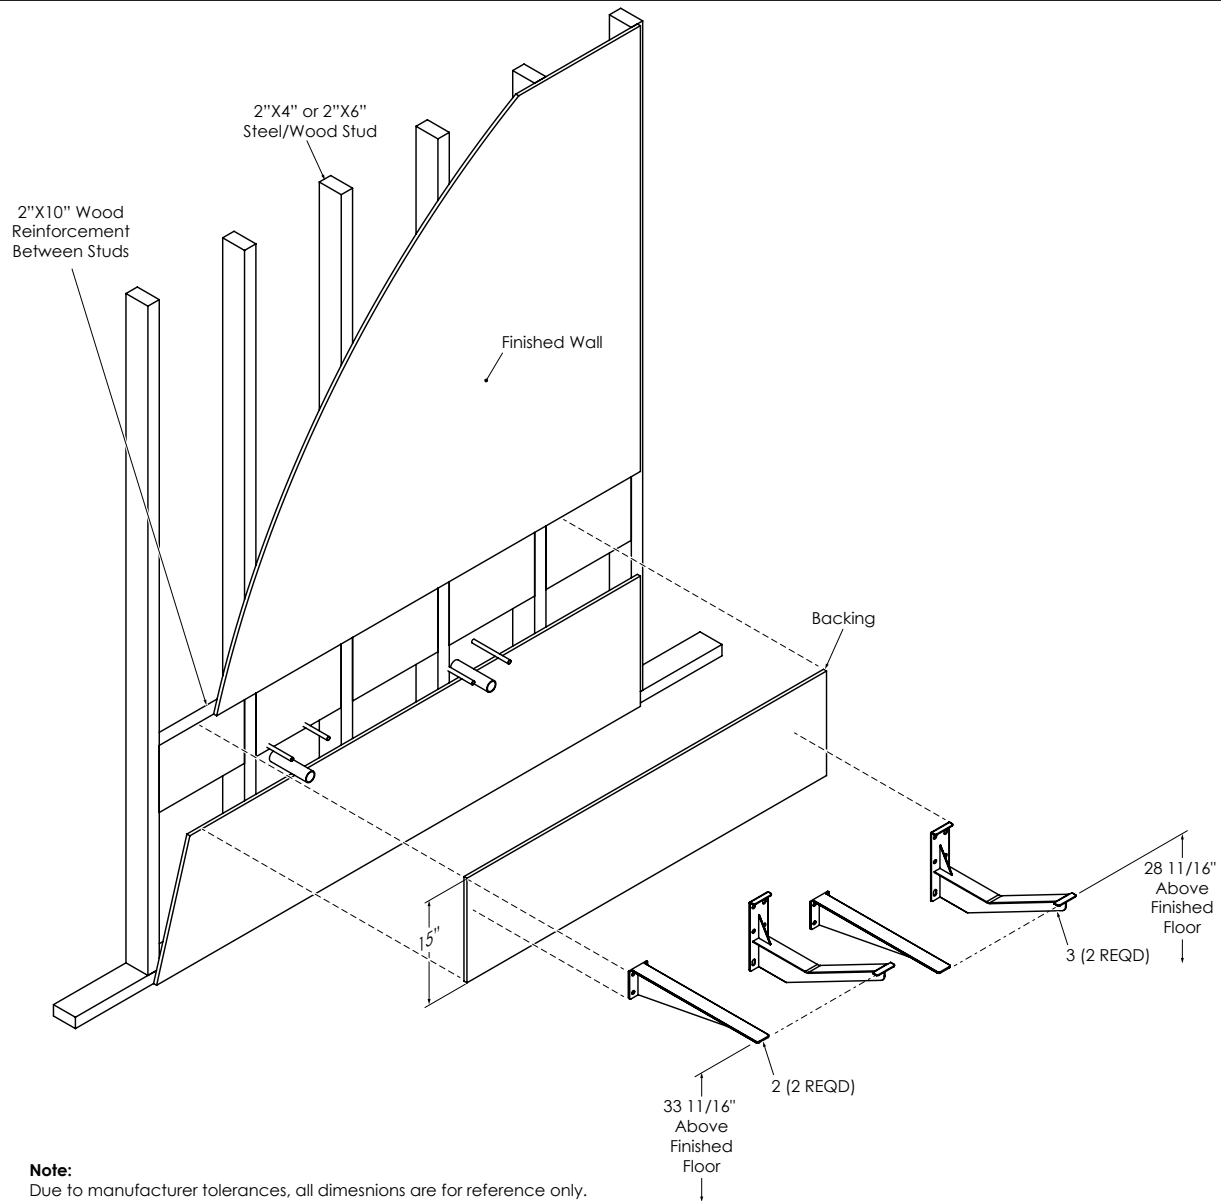

Figure 2
1. Install Backing (Figure 2) onto wall studs.
2. Mount the Side and Middle Brackets (2, 3, Figure 2) to the backing. Ensure that Side and Middle Brackets (2, 3) are level and the proper distance from the floor.